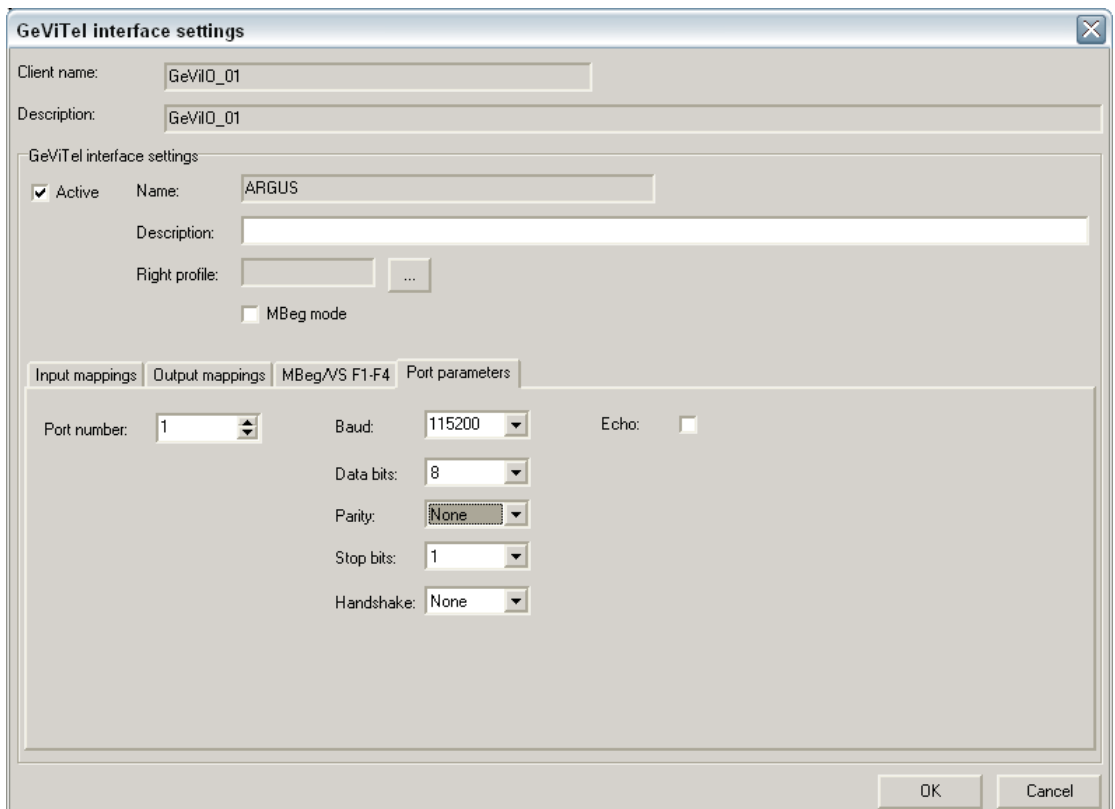

Figure 8-9: Port parameters
- After the video input has been added, go to the page "Port parameters". (Abbildung 8-9). On this page, the interface parameters for ARGUS are indicated. From an operational point of view, these are 115200 Baud, 8 Data bits, no parity, 1 stop bit, no handshake.